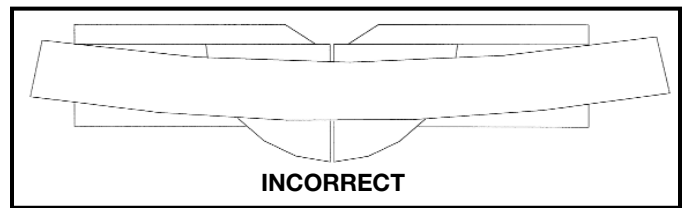

Fig. 42
2. When the workpiece is positioned the wrong way (Fig. 42), it will pinch the blade near the completion of the cut.